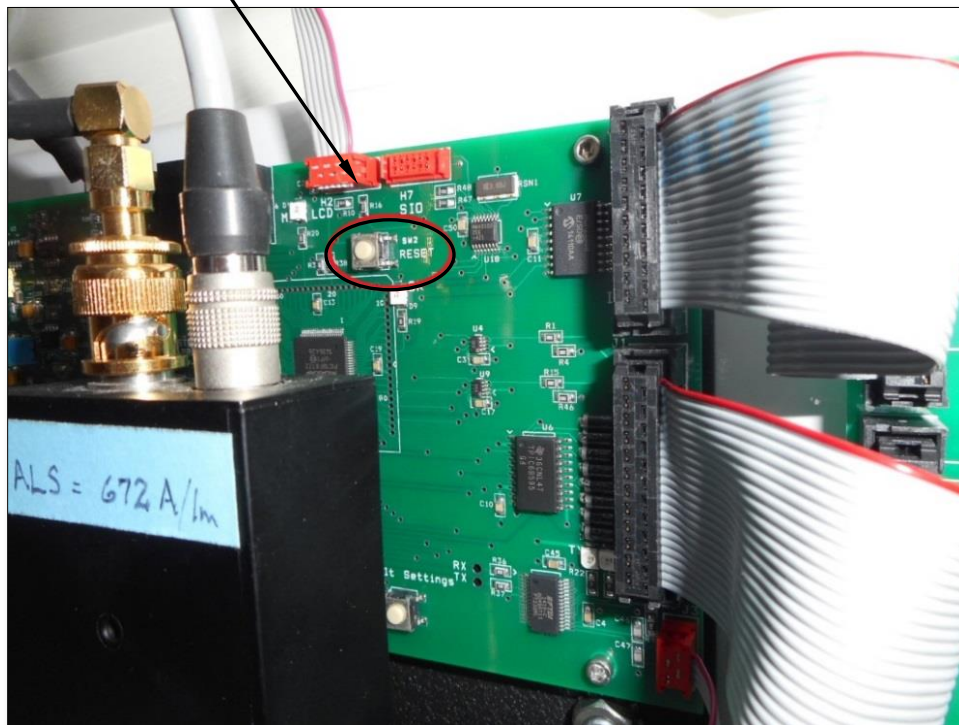

Figure 3.17
4. On the SP-2000 board inside the main analyzer enclosure (*Figure 3.17*), press and hold the **Reset button** for 2 seconds. The SP-2000 board is located immediately behind the Detector assembly.